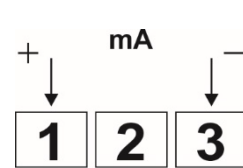

Figure 13 – 0-20 mA and 4-20 mA connections
- **0-20 mA and 4-20 mA:** Figure 13 shows the connection mode for current signals.